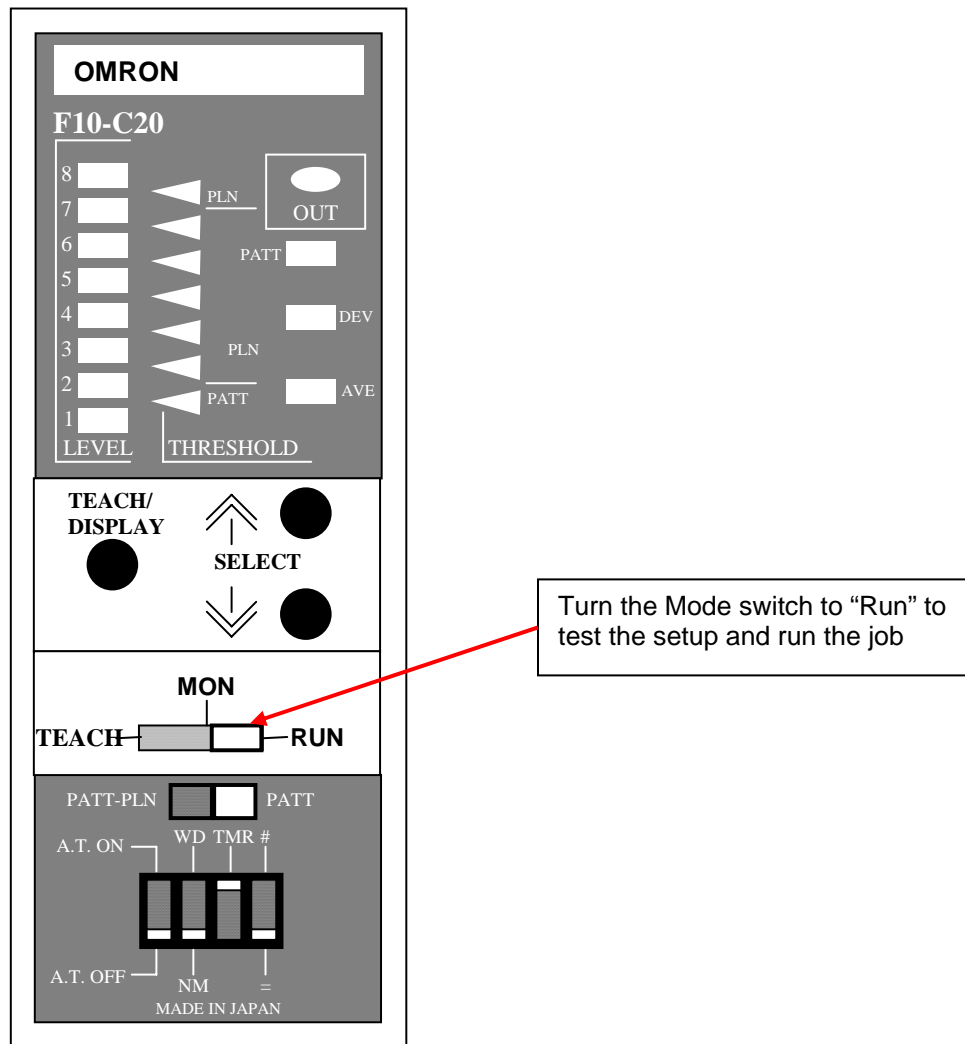

Fig. 3-3
- f. Once the amplifier has been trained to recognize the sort mark, turn the Mode Select switch to “RUN”, see figure 3-3, then test the setup by feeding a printed sort mark under the pattern reader and observing the movement of the sort cones.